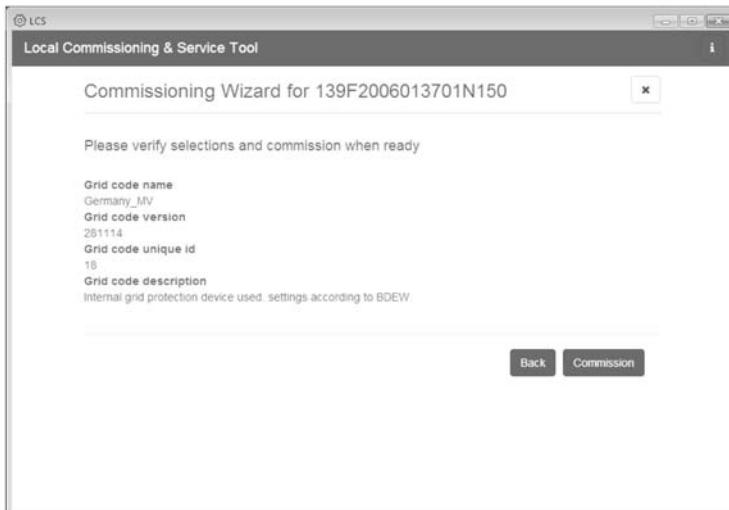

Figure 5.7 LCS tool - checking the country and grid code
9. The LCS tool prompts for a confirmation of the selected country and grid code. See figure 5.7. A wrong configuration can be changed by clicking the [Back] button and by changing the settings in the previous window.